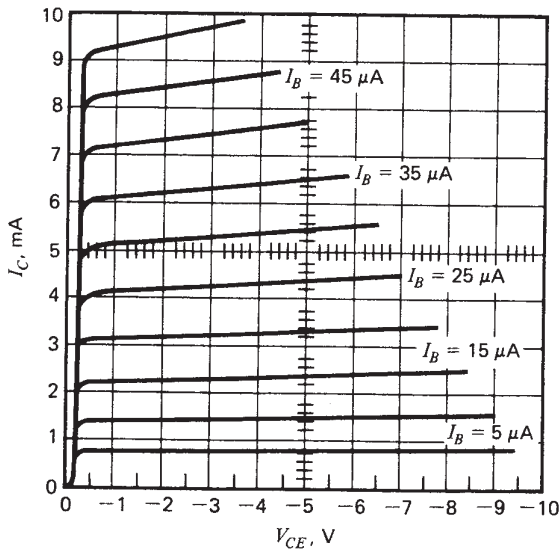

Fig. 58-4. 2N3638 family of curves (approximate).
16. Measure and record I_{BQ} and I_{CQ} on the characteristic curve sheet shown in Fig. 58-4.